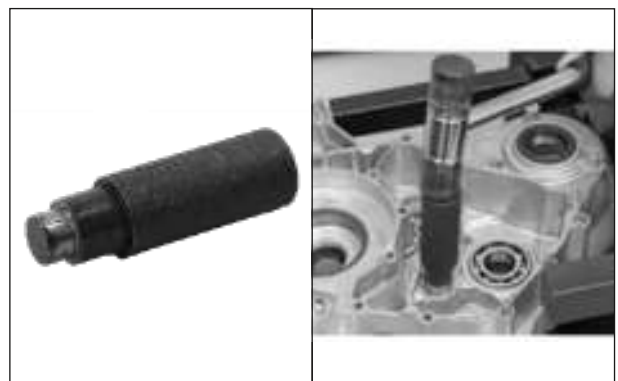

Fig. 1.18
- Assemble the needle bearing on crank case LH as shown in figure and apply glow by using a mallet to assemble needle bearing. (Fig. 1.18)